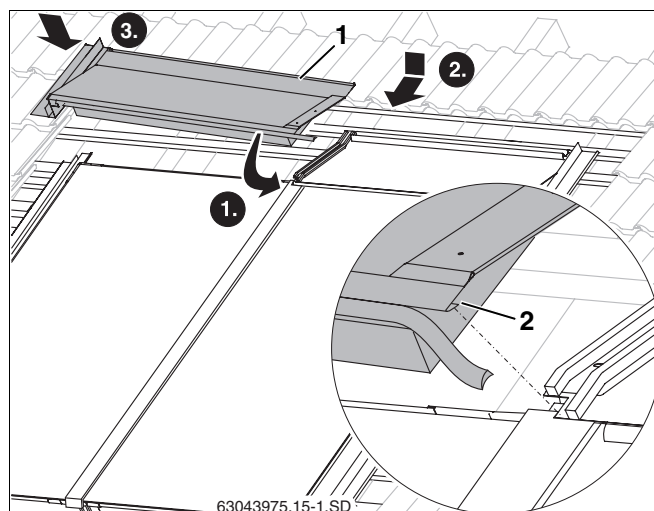

Fig. 57 Upper left facing panel
- ▶ Feed panel fold on remaining upper facing panels (Fig. 57, **Item 2**) into the fitted facing panel and then push towards the collector.
- ▶ Feed the upper left facing panel (Fig. 57, **Item 1**) into the side facing panel on the left.